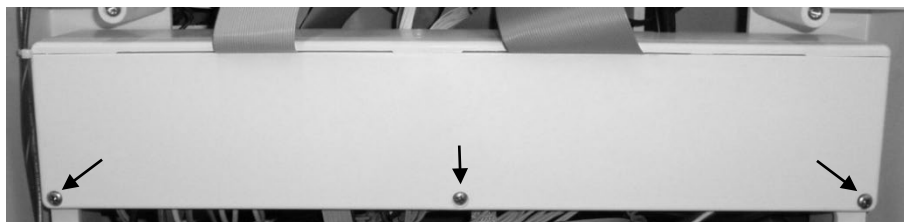

Figure 5 – Distribution Box Screw Locations
- Remove the distribution box cover. See Figure 5 for screw locations.